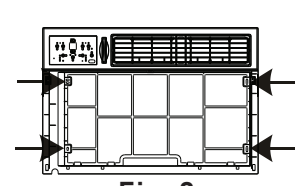

Fig. 2
3. Locate and remove the four front screws. These screws will be needed to re-install the front panel later. (See Fig. 2.)